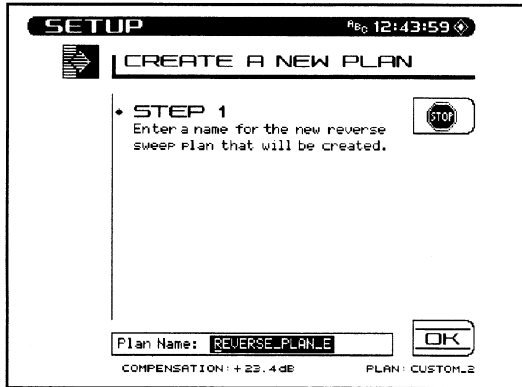

Fig. 14-14 Creating a New Reverse Sweep Plan, Step 1
1. To access your reverse sweep plans, select the *Reverse Sweep Plans* option and press the **ENTER** key. At the REVERSE SWEEP PLANS menu, press the **New** soft key. The CREATE A NEW PLAN menu will appear (see Figure 14-14). Enter a name for the plan using the alphanumeric keys and press the **Enter** key. Then press the **OK** soft key to continue.